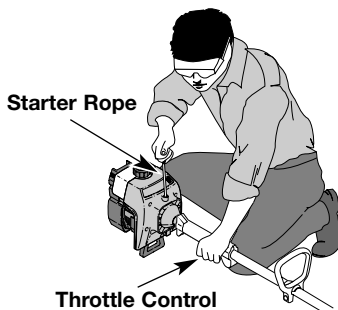

Fig. 8
WARNING: Avoid accidental starting. Be in the starting position when pulling the starter rope (Fig. 8). The operator and unit must be in a stable position while starting to avoid serious personal injury.
5. With the unit on the ground, squeeze the throttle control and pull starter rope briskly (Fig. 8). Continue pulling until the engine sounds as though it wants to run (normally 2 to 5 pulls).
7. Pull starter rope briskly 1 to 3 times to start the engine (Fig. 8).
1. Release your hand from the throttle control (Fig. 8). Allow the engine to cool down by idling.